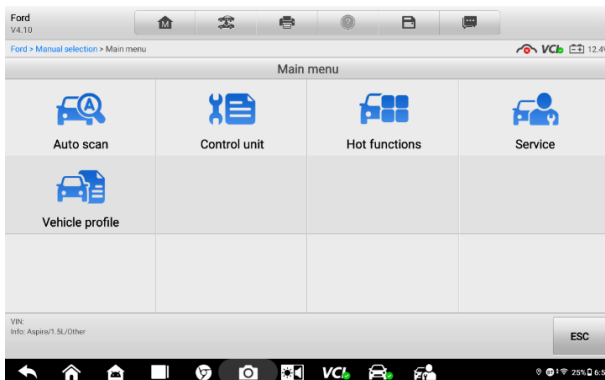

Figure 4-2 Sample Vehicle Diagnostics Screen
5. Tap **OK**. The vehicle will be identified in a few seconds, and once the vehicle information is confirmed, the system will guide you to the Vehicle Diagnostics screen directly. (see Figure 4-2 Sample Vehicle Diagnostics Screen)
The Vehicle Diagnostics screen (Figure 4-2 Sample Vehicle Diagnostics Screen) has 2 main options: